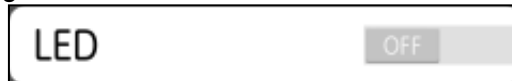

Figure 4-44 Sensor setting: [LED] menu
Sensor setting: [LED] menu (Figure 4-44) in the parameter setup screen (Figure 4-21) allows you to set LEDs of the sensor unit to on and off. (For the location of LED on the sensor unit, refer to Figure 1-2 ⑪、⑫、⑰ and ⑱). The menu shows the current setting at the right hand. Figure 4-44 shows the case of the current setting: ON.